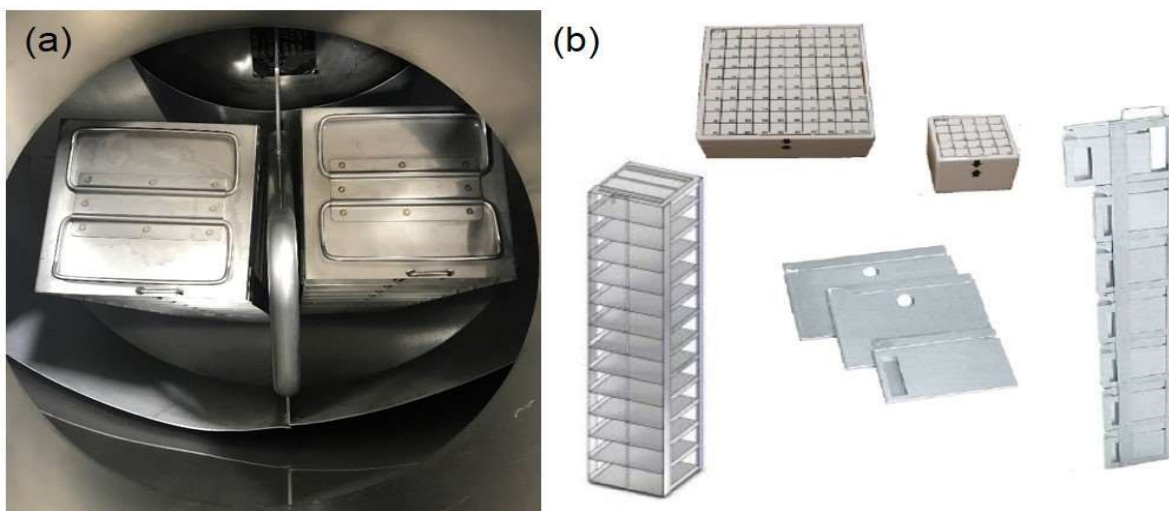
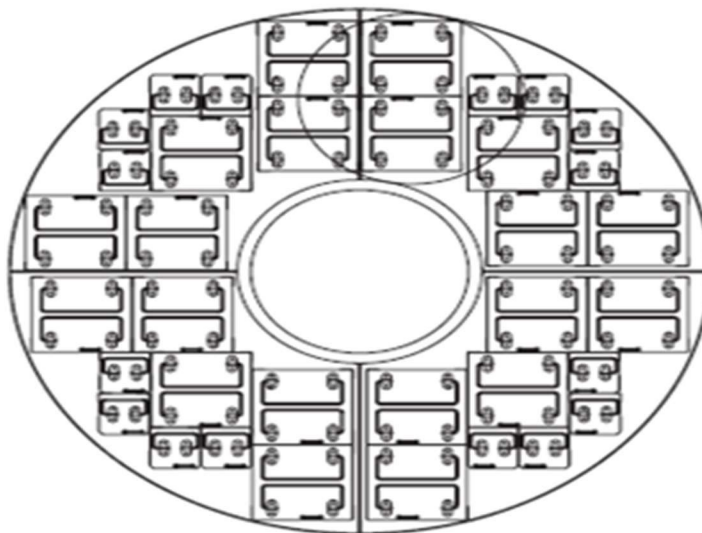

Figure 13: (a) View inside storage container, (b) Inventory systems
Figure 14: Rack Layout for MVE FUSION
1. Load all racks and empty boxes or alternate inventory systems into the MVE Fusion. Refer to Figure 13 for a view inside a Fusion having storage racks installed and common inventory systems and Figure 14 for a standard Fusion rack layout.